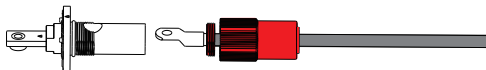

Figure 4.2-4
**Step3:** Insert the wire lugs of the pressed wire into the terminal sockets on the machine, as shown in Figure 4.2-4.